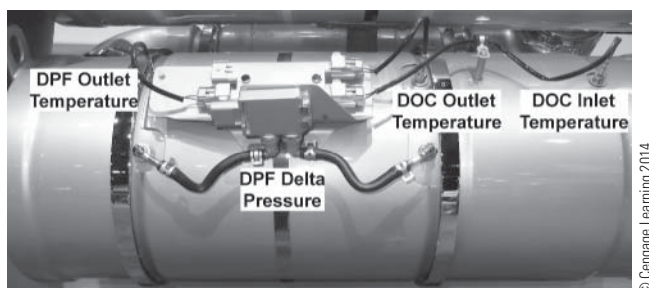

Figure 14-35 DOC/DPF system.
There are two primary methods of creating the heat in the diesel exhaust system necessary to cause DPF regeneration. Most North American OEMs use a diesel oxidation catalyst (DOC) upstream of the DPF to generate heat. A DOC is similar to a catalytic converter found in automobiles. A catalyst is a substance which increases the rate of a chemical reaction. The catalyst material in a DOC is typically a platinum metal. The DOC converts hydrocarbons (HC) and exhaust oxygen (O) into CO₂, H₂O, and heat energy. Note that there is no flame or ignition involved. Since diesel fuel is a hydrocarbon compound, a system of injecting diesel fuel into the exhaust stream is used to create the heat necessary to regenerate the DPF. This hydrocarbon injection system is controlled by the ECM or by a separate aftertreatment control module in some systems. Temperature sensors at the DOC inlet, the DOC outlet (or DPF inlet), and the DPF outlet are typically used as inputs to the ECM. These temperature sensors are thermocouples, thermistors, or RTDs (PRTs), as described in **Chapter 11**. Thermocouple type sensors are typically hardwired to a remote aftertreatment temperature module instead of being wired directly to the ECM. This module communicates temperature information to the ECM using a CAN network or some other digital network system such as a local interconnect network (LIN). A typical DOC/DPF system is shown in **Figure 14-35**.